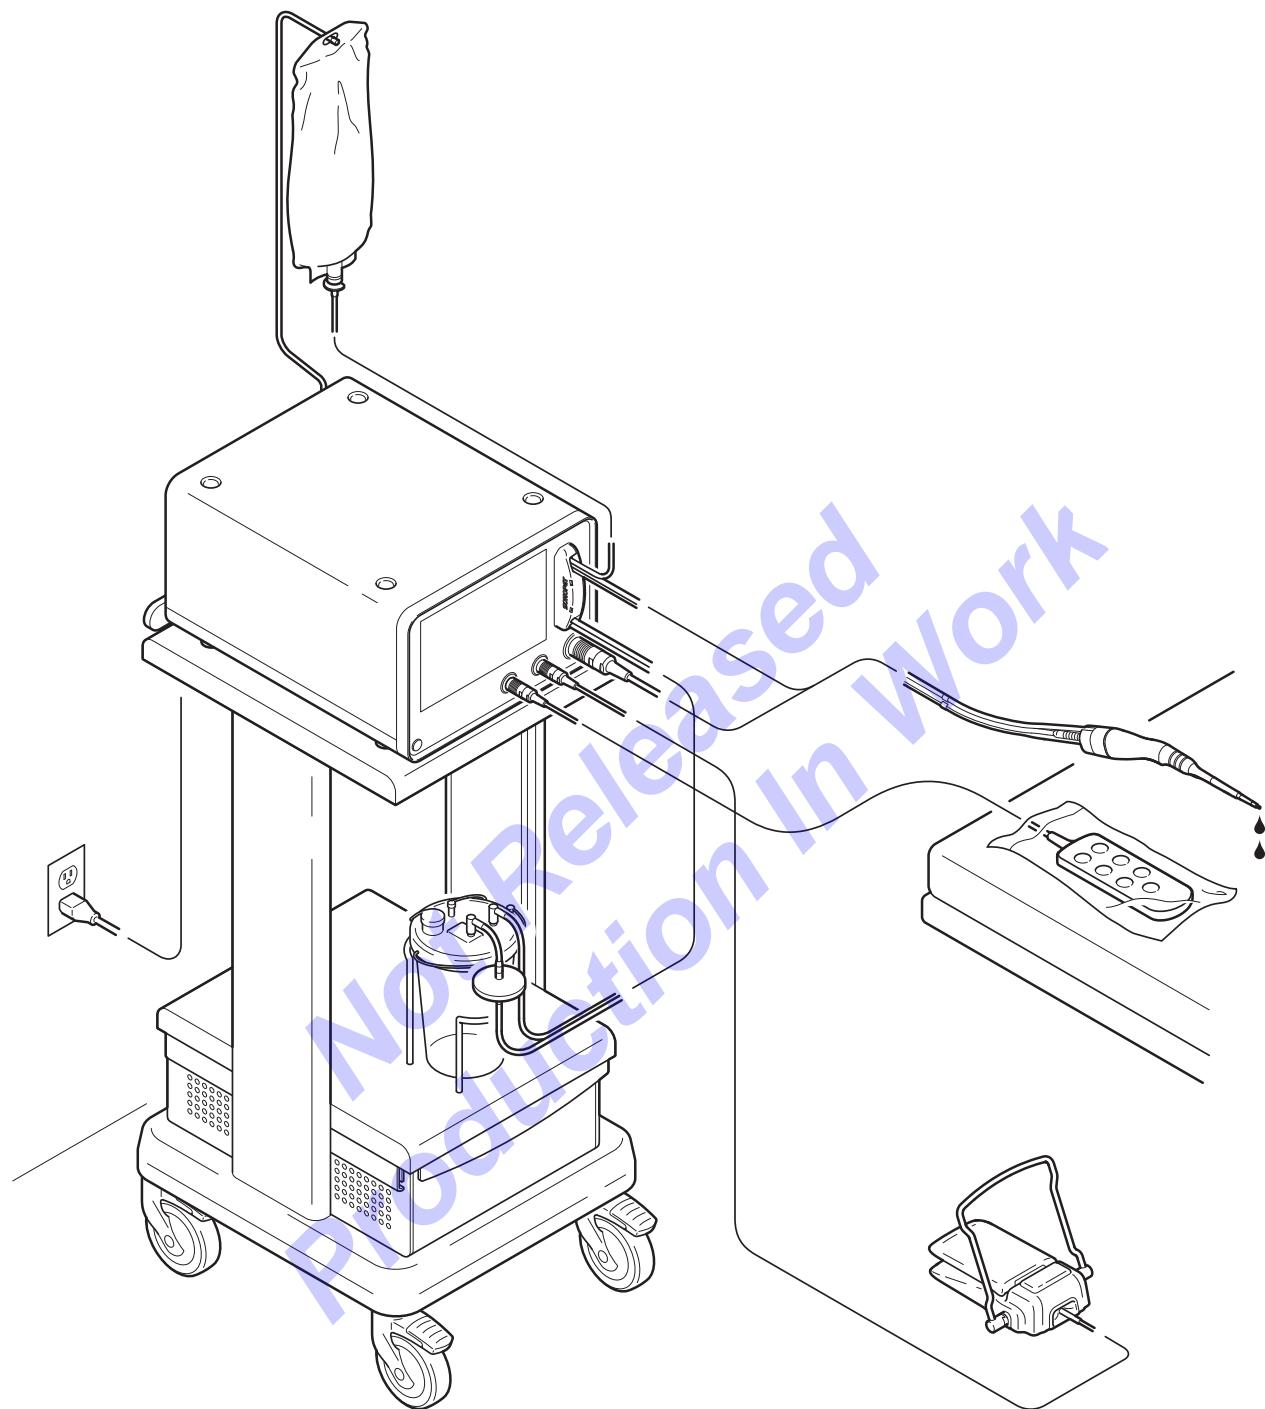
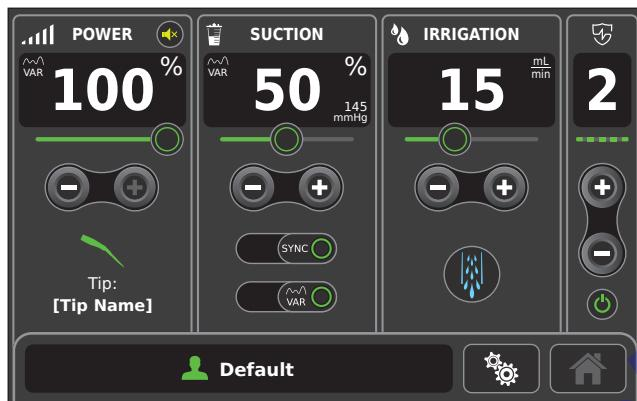

Figure 101 – Complete System Configuration with (optional) Hand Controller
Figure 102 – Home Screen
- Once all the required system components are installed and initial priming is complete (Figure 101), the HOME screen appears and the system is ready for use (Figure 102).